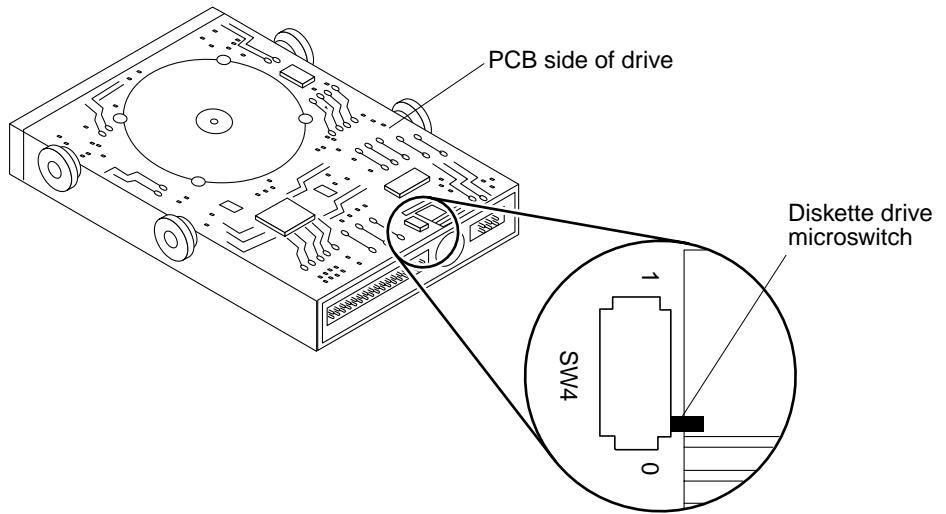

FIGURE 9-16 Setting the Diskette Drive Microswitch
- a. If the diskette drive has a switch on the side of the drive, set the diskette drive switch all the way to the rear (FIGURE 9-16).
- b. If the diskette drive does not have a switch on the side of the drive, it has a microswitch (SW4) on the printed circuit board (PCB) side of the drive. Set SW4 to the 0 position by pressing it towards the rear of the diskette drive (FIGURE 9-16).